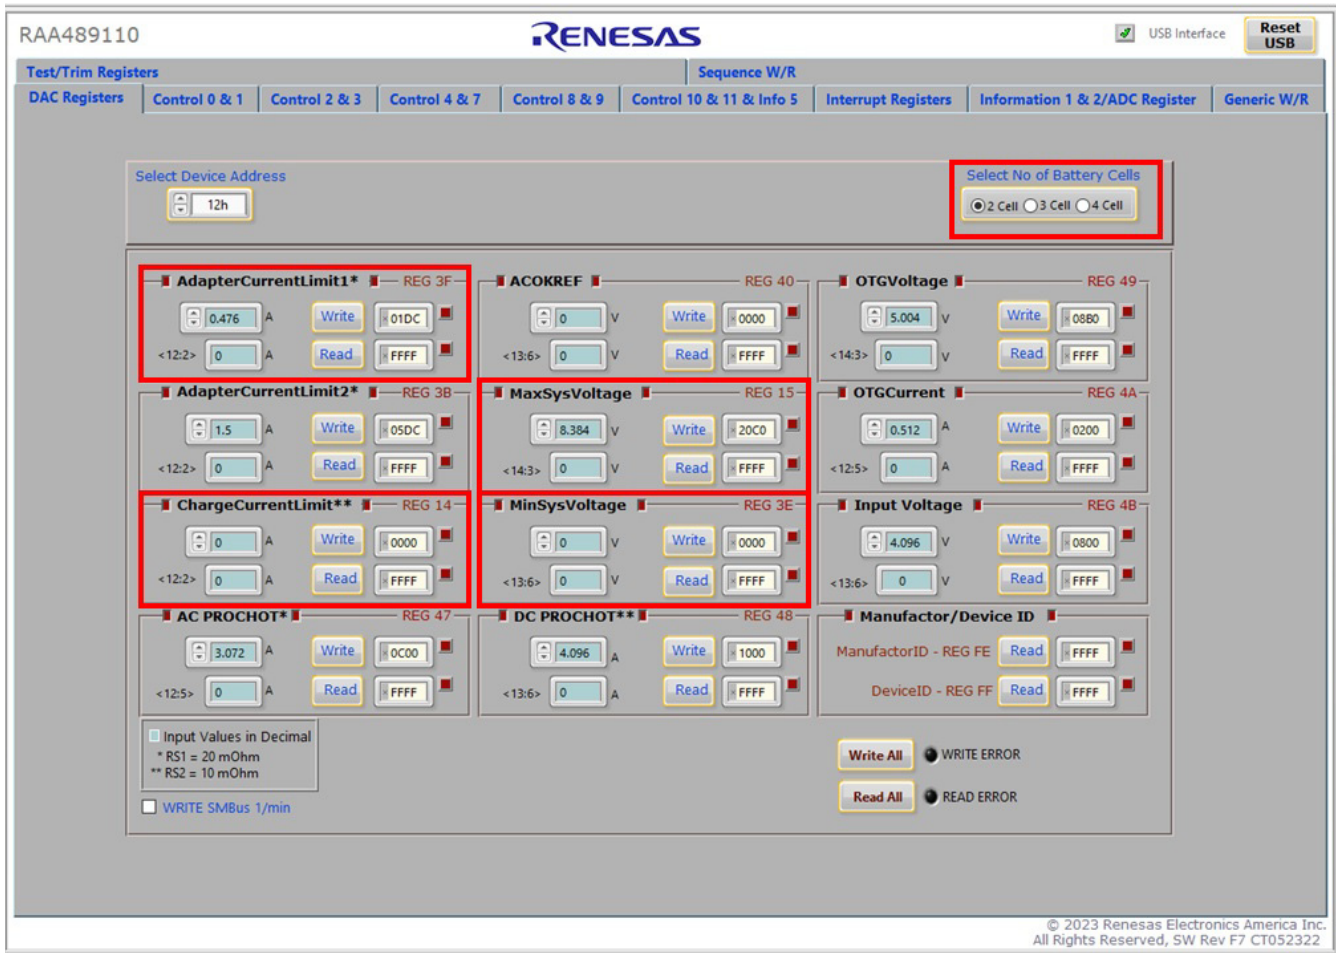

Figure 8. RAA489110 GUI
The number of battery cell and adapter current limit default values can be configured with a standard 1% 0603 resistor (R13) from the PROG pin to GND. The *Prog Pin Programming Options* table in the RAA489110 datasheet shows the programming options. After the default number of cells in series is set, the default values for MaxSystemVoltage and MinSystemVoltage are set accordingly. These values can also be changed through the SMBus control registers, which are implemented with the Renesas GUI shown in Figure 8.
4. Turn on the power supply. LED3 turns off. Next, turn on the battery emulator and open the Renesas RAA489110 GUI (Figure 8).